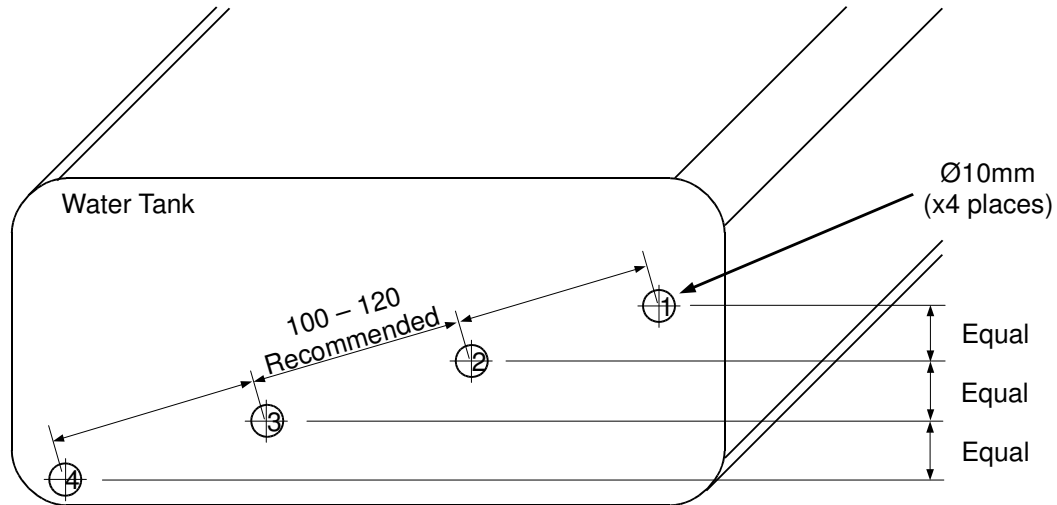

Figure 5: Tank Preparation
- (c) Drill the required holes as shown in Figure 5 below.